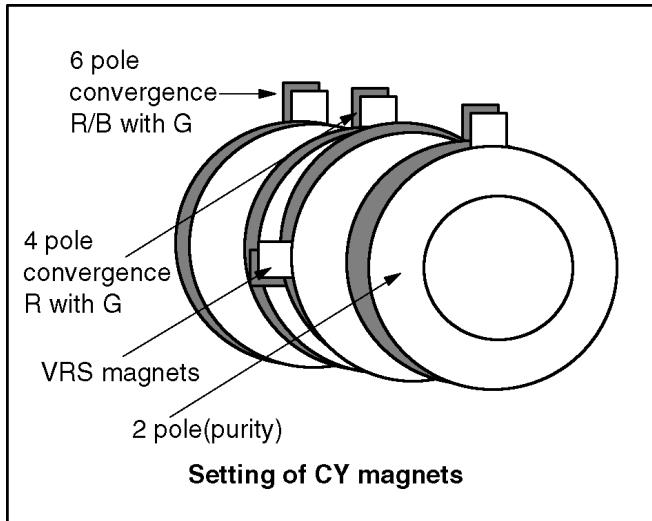
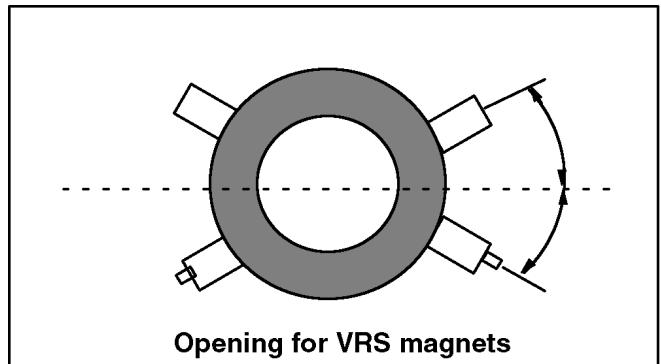

Fig. 1
Fig. 2
1. Receive PAL colour bar pattern. 2. Connect oscilloscope to A21 pin 3. 3. Set controls : BRT.....CENTER COLOUR.....CENTER CONTRAST.....MAX AI.....OFF	1. Adjust Sub Contrast (Service 1) : $A=3.85 \pm 0.1V$  <p>Fig. 1.</p> 2. Adjust Video gain 2 (Service 1) so that Sub picture level B becomes as same as Main picture level A.  <p>Fig. 2.</p>
- Set DY to CRT not to tilt up and down and left and right deflection. (Fig. 1)